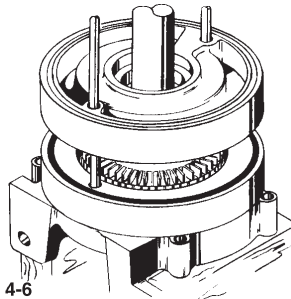

Figure 4-6
7. Slide a right hand channel ring (#9) onto the guide rods with the water channel facing downward, toward the impeller.(refer to figure 4-6) The small outlet opening should be in the “one o’clock” position. This completes one stage; a stage consisting of one left hand channel ring (#10), a right hand channel